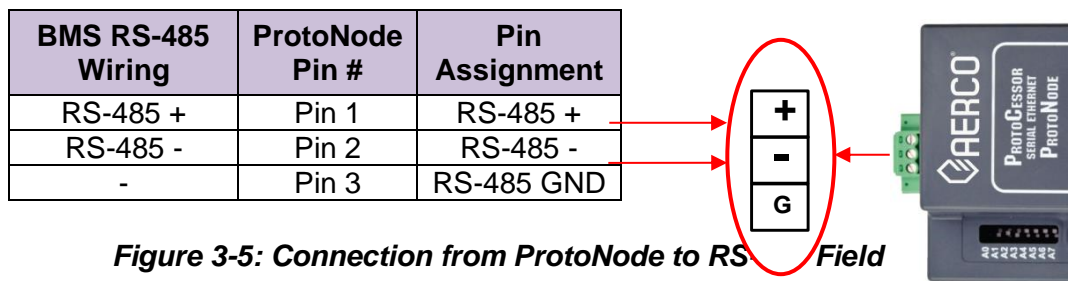

Figure 3-5: Connection from ProtoNode to RS-485 Field
- Connect the BACnet MS/TP or Metasys N2 RS-485 network wires to the 3-pin RS-485 connector on ProtoNode FPC-N34 as shown below in Figure 3-5.